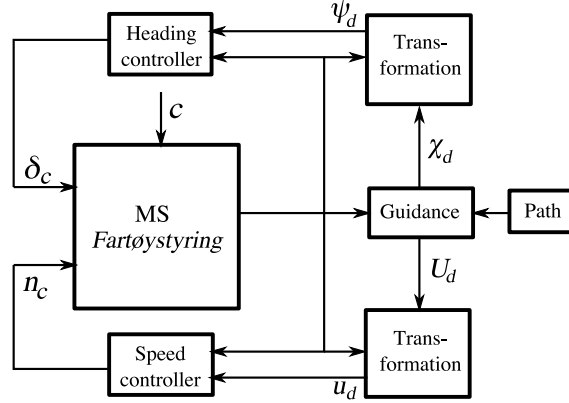

Figure 5: Controller structure for Section 2, Tasks 2.5–2.7.
**Task 2.5.** We will now include crab angle compensation in our system. Design transformations that purposefully convert  $\chi_d$  to  $\psi_d$  and  $U_d$  to  $u_d$ , see Figure 5. Justify your conversion methods, and implement them in Matlab/Simulink.